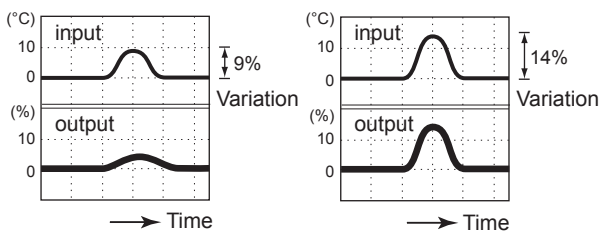

Figure 3.3 Output change with damping
Refer to the Figure 3.3 about the relation between Sensor1 (2) and AO Damp/AO Damp point.